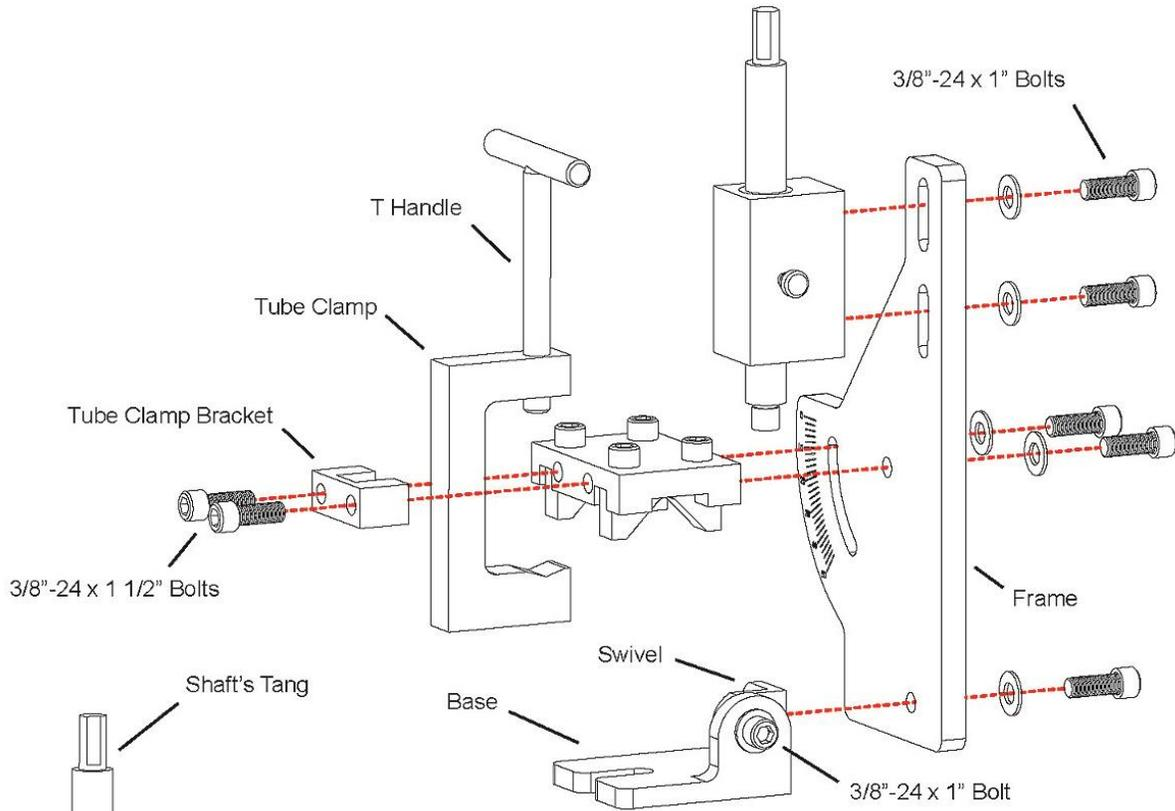

Figure 1 - Exploded View of Complete Notcher
4. Screw the T-Handle into the Tube Clamp as shown in figure 1.
5. Using one 3/8"x1" bolt and washer, attach the Swivel onto the Base as shown in figure 1.